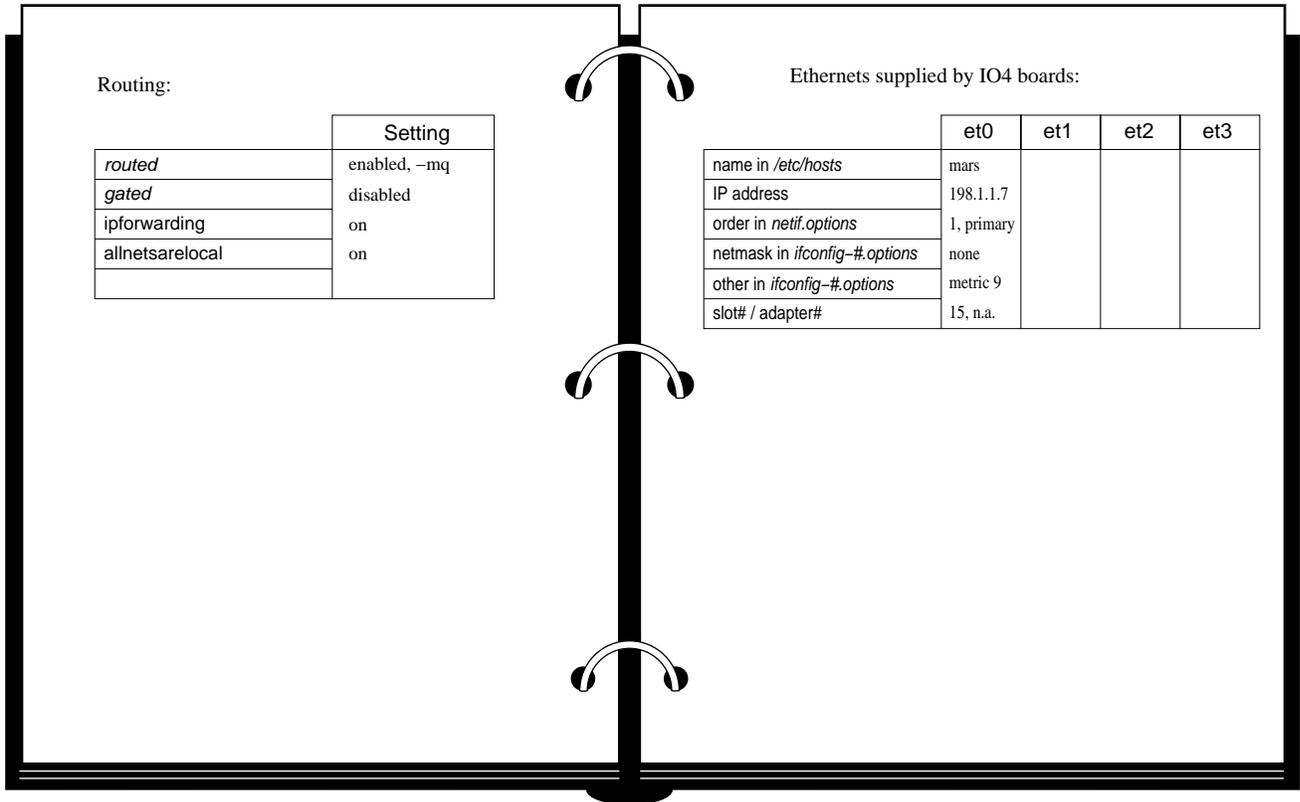
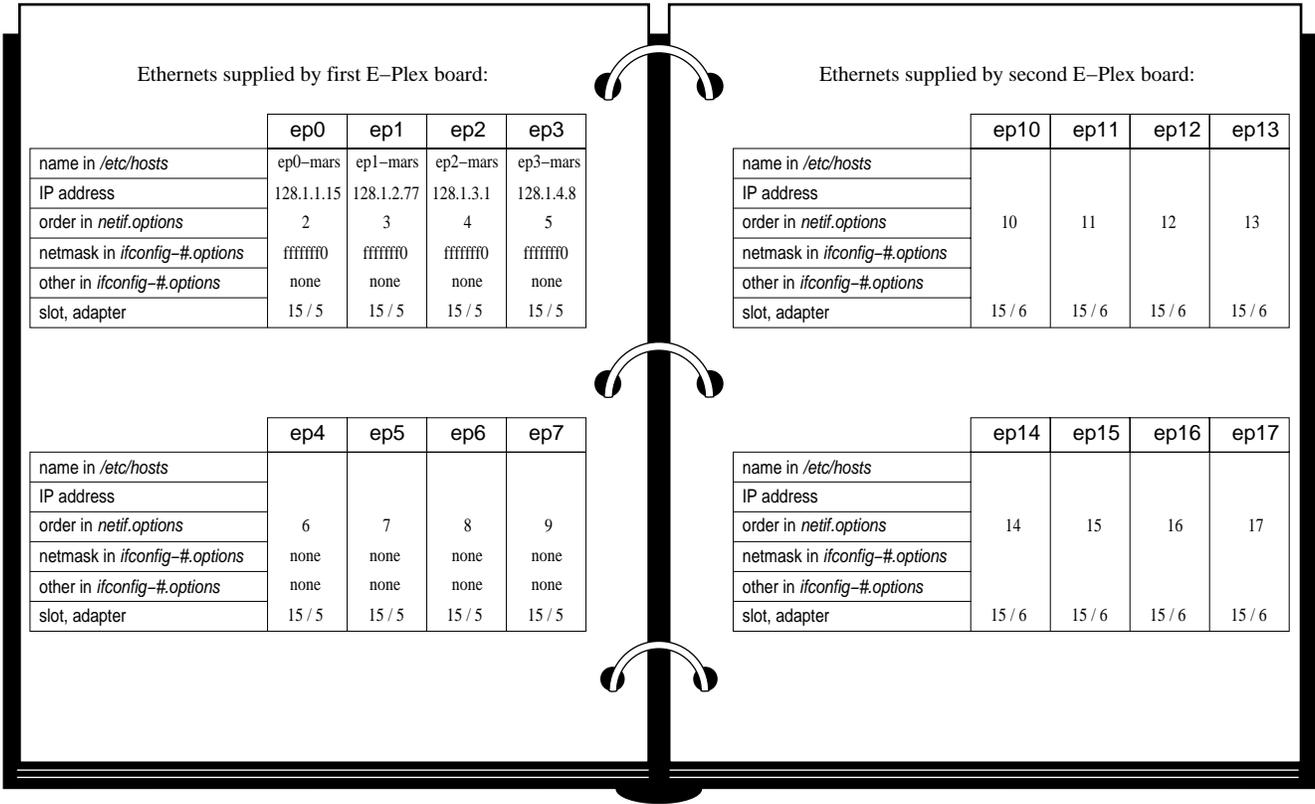

Figure 1-1 Sample of a System Notebook: Networking Pages
Figure 1-2 Sample of a System Notebook: E-Plex Pages
A system with multiple network connections can be difficult to configure and maintain. Before starting the E-Plex configuration tasks, Silicon Graphics recommends that you plan your system's network configuration. You can use a system notebook, as illustrated in Figure 1-1 and Figure 1-2, to plan and also, keep a record of, your configuration. Maintaining a system notebook is very useful:
A system notebook is a written record of all the configuration information for your system's network connections. This section illustrates sample pages from a notebook. The information that needs to be kept in the system notebook is illustrated in Figure 1-1 and Figure 1-2.
- Figure 1-1 illustrates general networking and operating system parameters that affect all network interfaces on the system.
- Figure 1-2 illustrates the parameters that affect individual network interfaces.